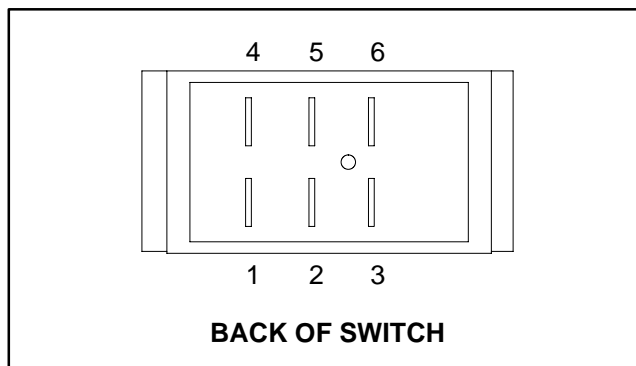

Figure 36
4. The switch terminals are marked as shown in Figure 36. The circuit logic of the air conditioning switch is shown in the chart below. With the use of a multimeter (ohms setting), the switch functions may be tested to determine whether continuity exists between the various terminals for each position. Verify continuity between switch terminals. Replace switch if testing identifies a faulty switch.